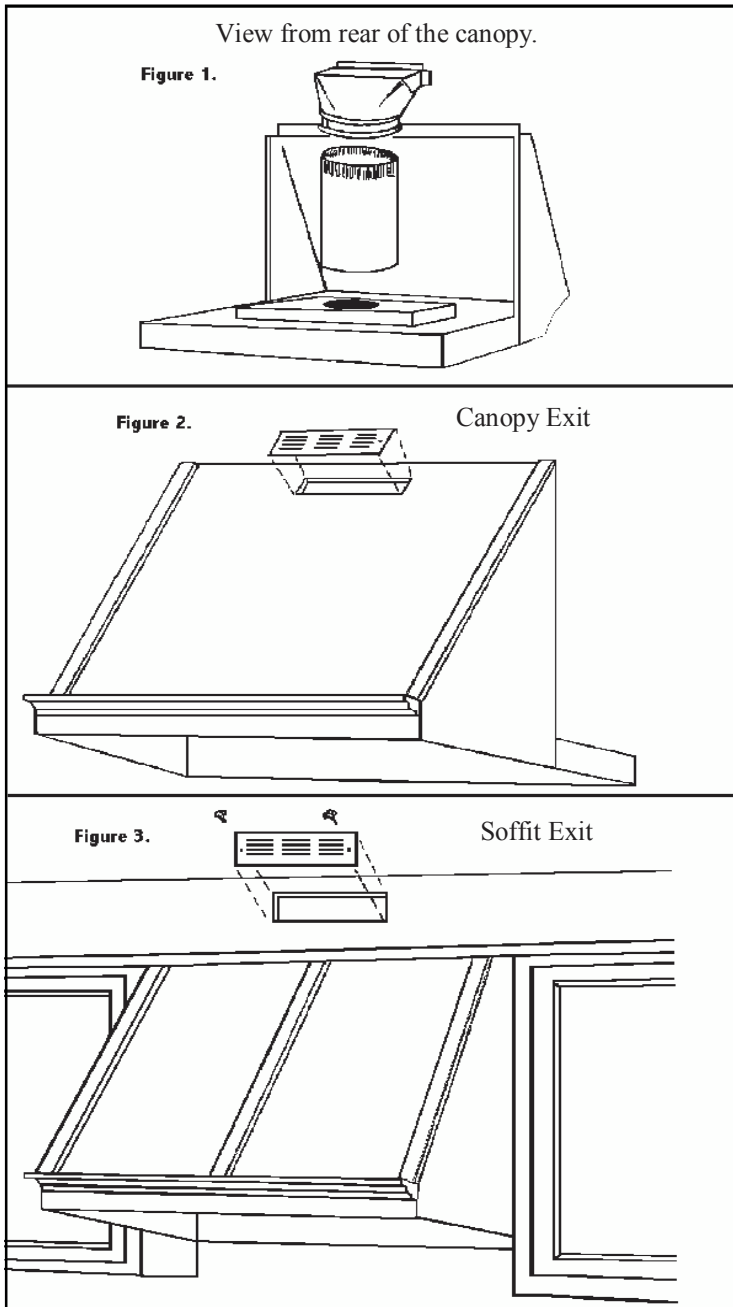

Figure 1:
1. Scribe line below top of cabinet to meet with bottom of hood. Repeat on the opposite cabinet. (Figure 1)